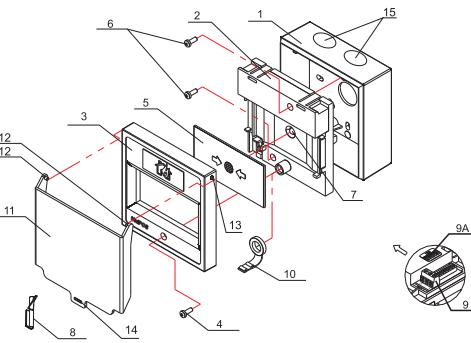

Fig.2
1. Tear off the breakable seal (pos.10, fig.2).
2. Open the protective cover (pos.11, fig.2).
3. Press the elastic element (pos.5, fig.2) in the designated by the arrows place. The build-in LED indicator lights up. The Fire Control Panel activates in "Fire condition".
3. Dismantle the cover (pos.3, fig.2) and replace the torn breakable seal.
4. Mount the cover back and lock the protective cover using the breakable seal (pos.11, fig.2).
- 1.1. Dismantle the detector by unscrewing the screws (pos.4, fig.2) and (pos.6, fig.2).
- 1.2. Consecutively add to the base of the manual call point the carrier unit, the elastic element (pos.5, fig.2) with the sticker to the cover, and the breakable seal (pos.5, fig.2).
- Screw the fixings (pos.4, fig.2) and (pos.6, fig.2).
- 1.3. Mount the protective cover (pos.11, fig.2) (if it is not factory mounted) to the cover (pos.3, fig.2), as carefully position the fixings (pos.12, fig.2) into the intended for that purpose openings (pos.13, fig.2).
- 1.4. Pass the spare end of the breakable seal through the opening of the protective cover (pos.14, fig.2). The protective cover is fixed to the front cover of the detector.
- 2.1. Dismantle the manual call point by unscrewing the screws (pos.4, fig.2) and (pos.6, fig.2).
- 2.2. If nozzles will be mounted, take off the plastic from the vacant places on the base (pos.15, fig.2). The openings with diameter Ø20 allow for connecting the nozzles.